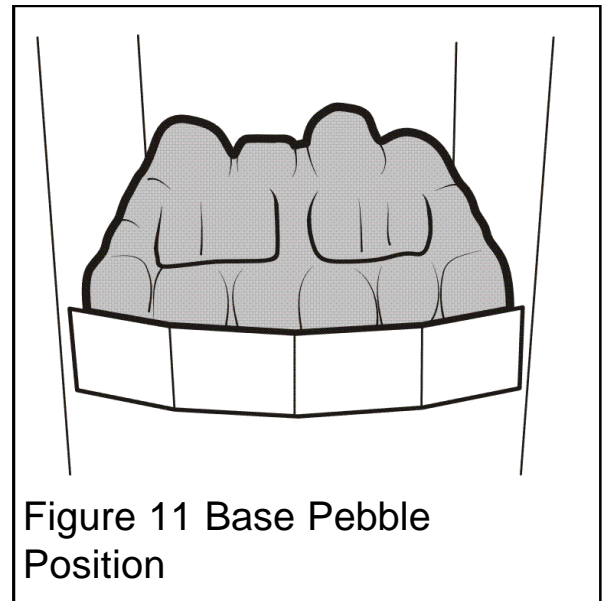

Figure 11 Base Pebble Position
1. Place the base pebble in the firebox. It should rest on the ledges at the rear sides of the burner unit. See figure 11.